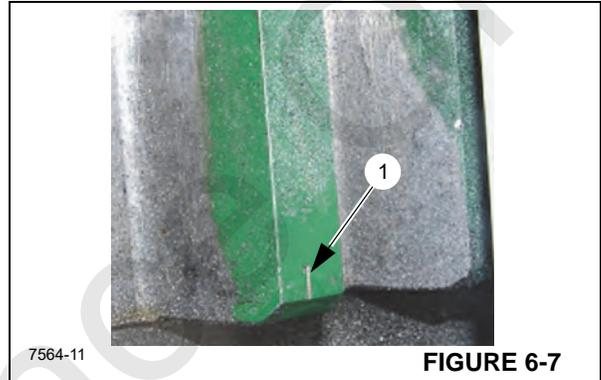
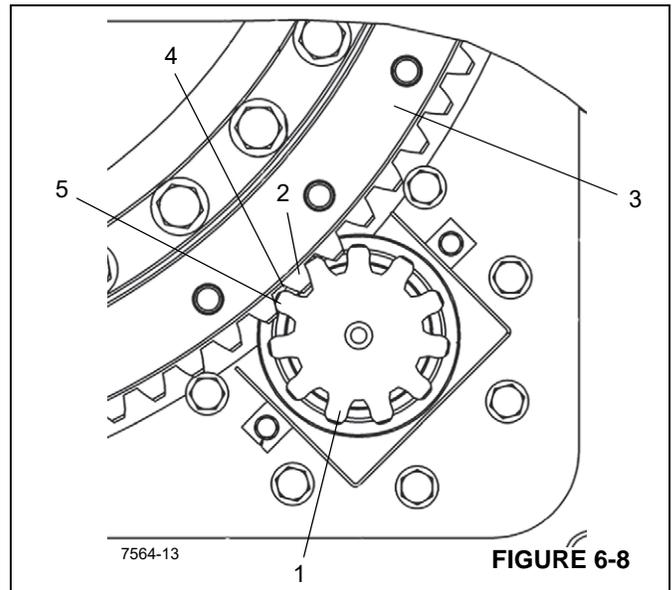

FIGURE 6-7
FIGURE 6-8
- Install the swing drive pinion (1) (Figure 6-8) so that the drive pinion gear teeth are aligned with the high point (maximum eccentricity) teeth (2) on the turret bearing (3).
The high point or maximum eccentricity of the turret bearing is identified at the factory using three gear teeth in a row on the turret bearing as the high point. Tooth one and three are steel stamped (1, Figure 6-7) with a dash mark at the top and bottom of the gear teeth. Use these three gear teeth when installing the swing drive and checking the backlash shown in Figure 6-8.
- Check the backlash (4, Figure 6-8) with a 0.203 mm (0.008 in) thick shim between the drive pinion gear teeth (5) and the high point (maximum eccentricity) gear teeth (2) on the turret bearing.
NOTE: If a new bearing (3) (Figure 6-8) is installed, a new pinion gear (1) must also be used.